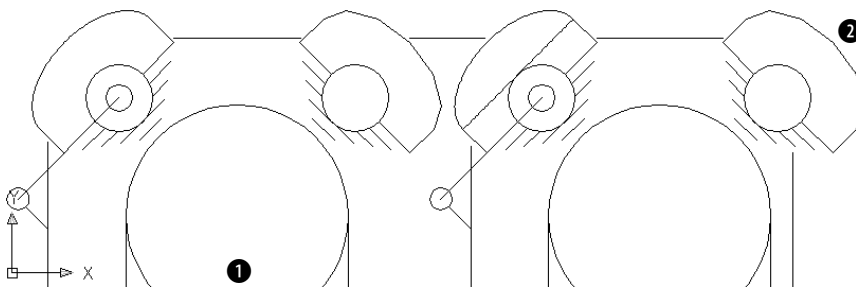

Figure 8-2: The air compressor is zoomed in so that you can see only part of the drawing.
1. Open `ab08-a.dwg` from the CD-ROM. This is an air compressor, as shown in Figure 8-2.
2.  Choose Pan Realtime from the Standard toolbar. Move the cursor to **1** in Figure 8-2, click, and drag to **2**. The air compressor moves up and to the right. (Note that by the time you get to **2**, the display of the air compressor has moved — but you should drag to where **2** was on the screen.) Press Esc.